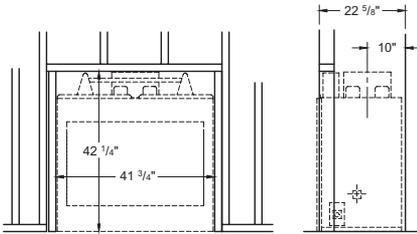

Figure 1 - Framing Dimensions
1. The location must allow for proper clearances (see Figures 1 and 2, page 4).
1. Frame opening for fireplace using dimensions shown in Figures 1 and 2.